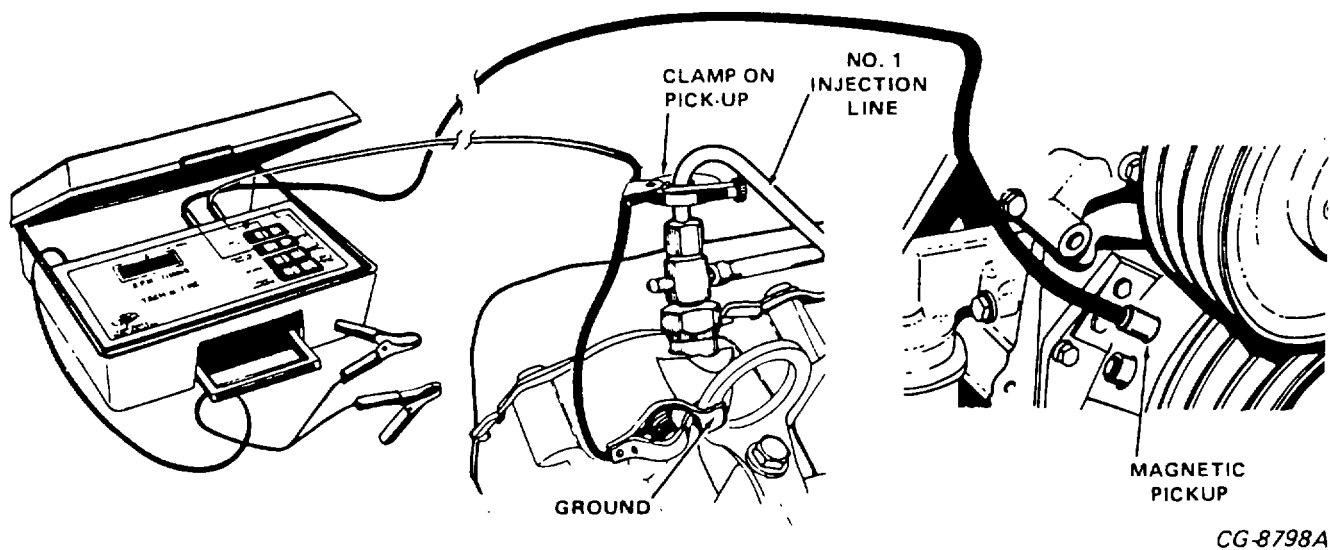

Figure 9. KENT-MOORE TACH-N-TIME™ SE-4142 CONNECTIONS.
2. Clamp-on the ¼ in. piezoelectric transducer to the No. 1 fuel injection line (See Figure 9) at the injection nozzle end.
3. Connect ground clip from transducer harness to an appropriate ground as shown in Figure 9.
1. Insert the magnetic probe into the magnetic pick-up access hole located on engine. (See Figure 9).